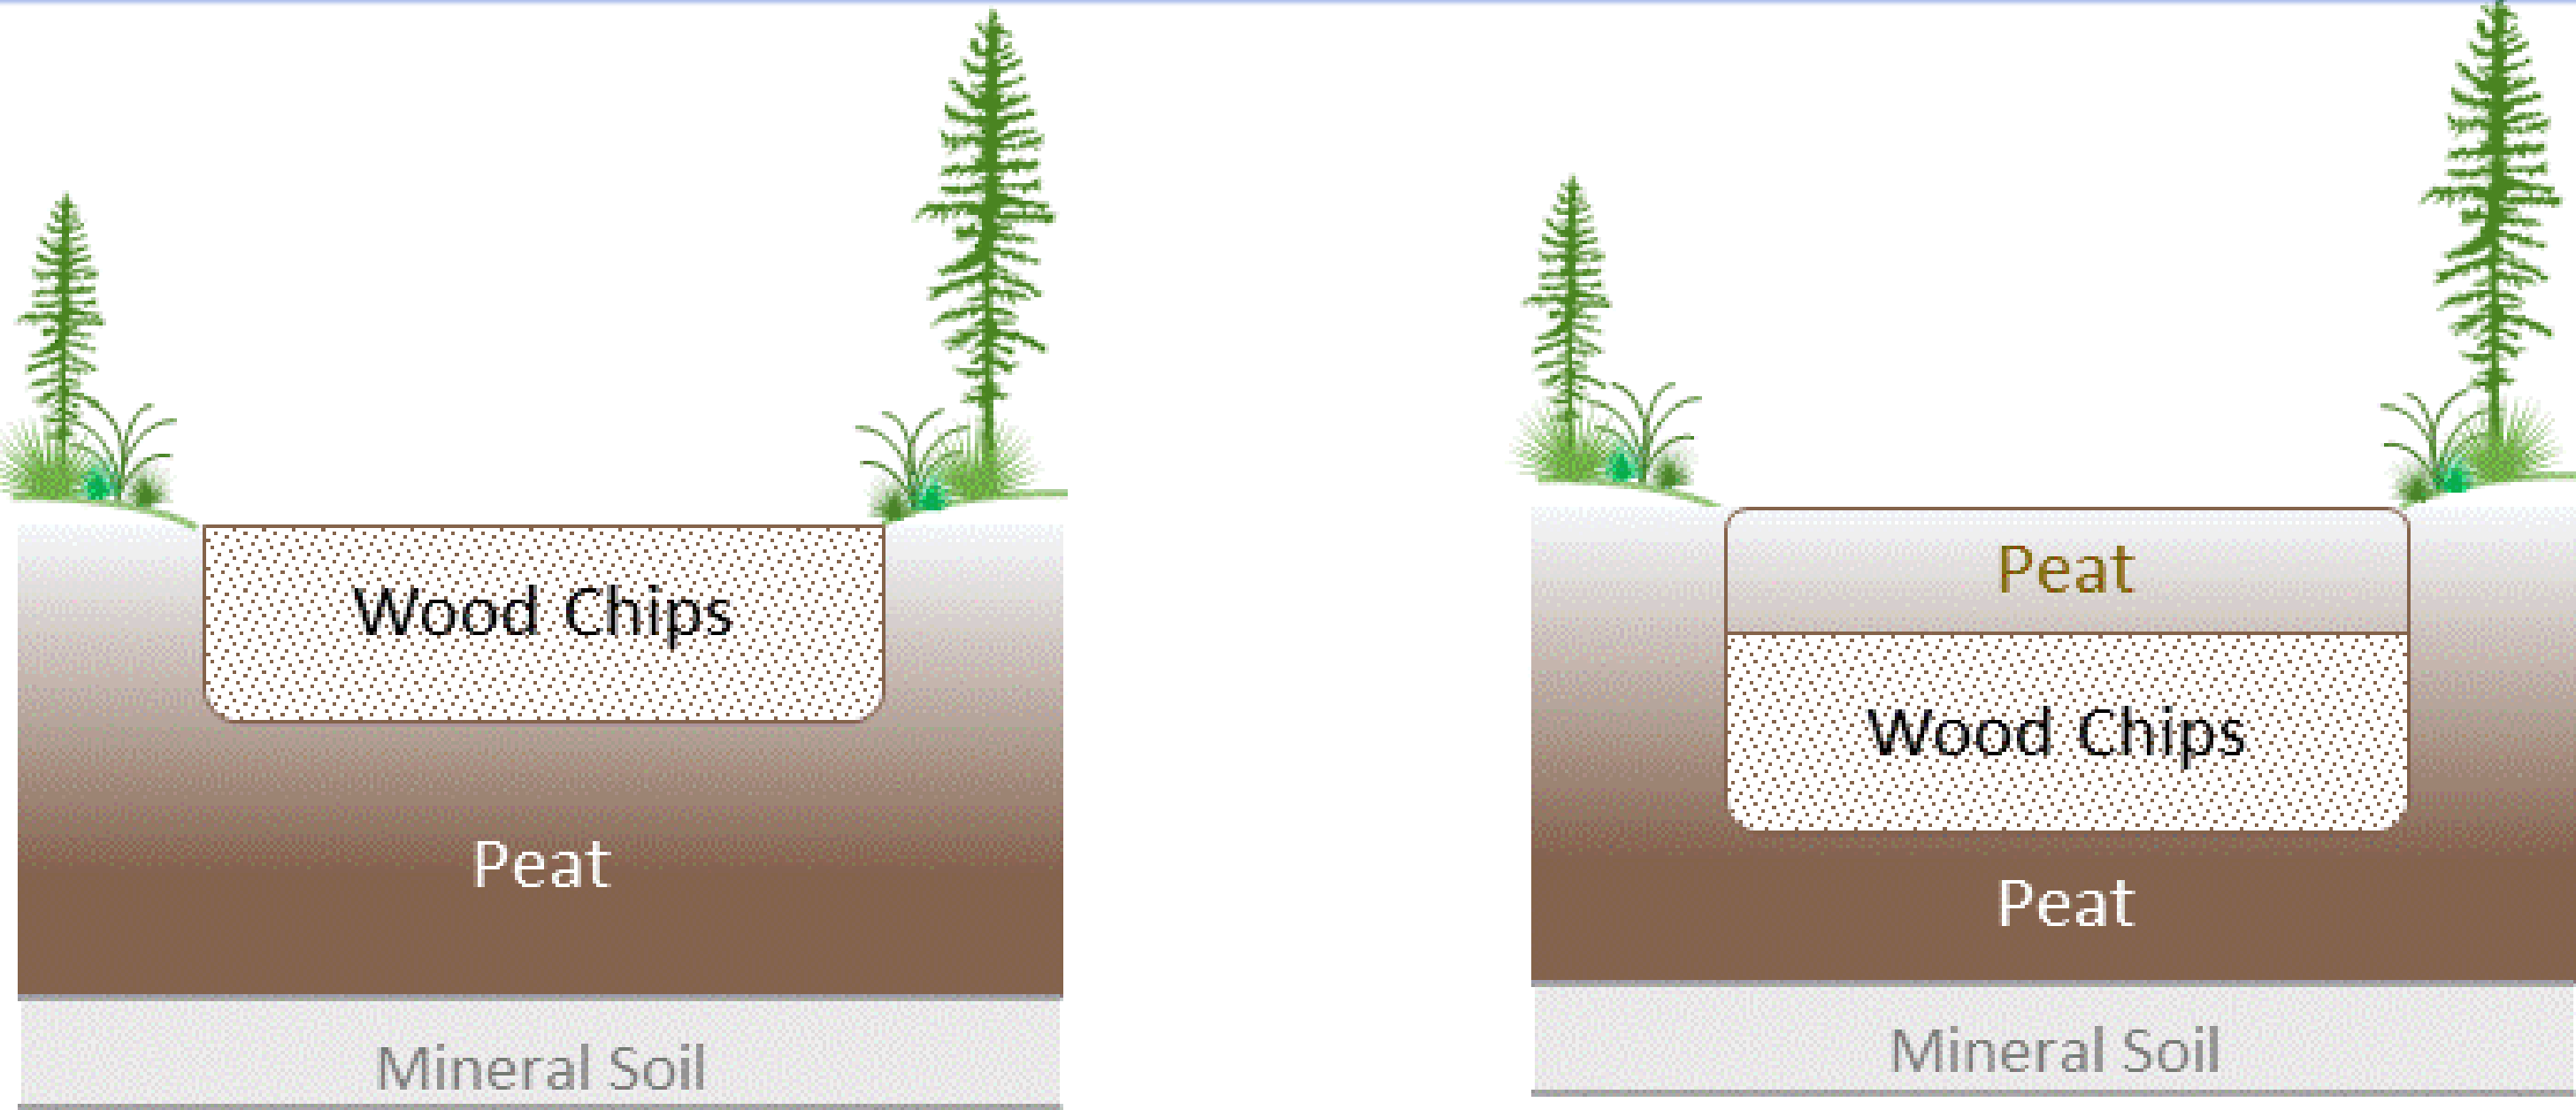

Figure 1. Perpendicular cross section of the chip road. Left: Chip road in place, Right: chip layer inverted with buried peat.
**Prescription** – invert wood chips with the buried peat, and adjust the final elevation to be equivalent to that of the hollows in the natural area adjacent to the road (Figure 1).